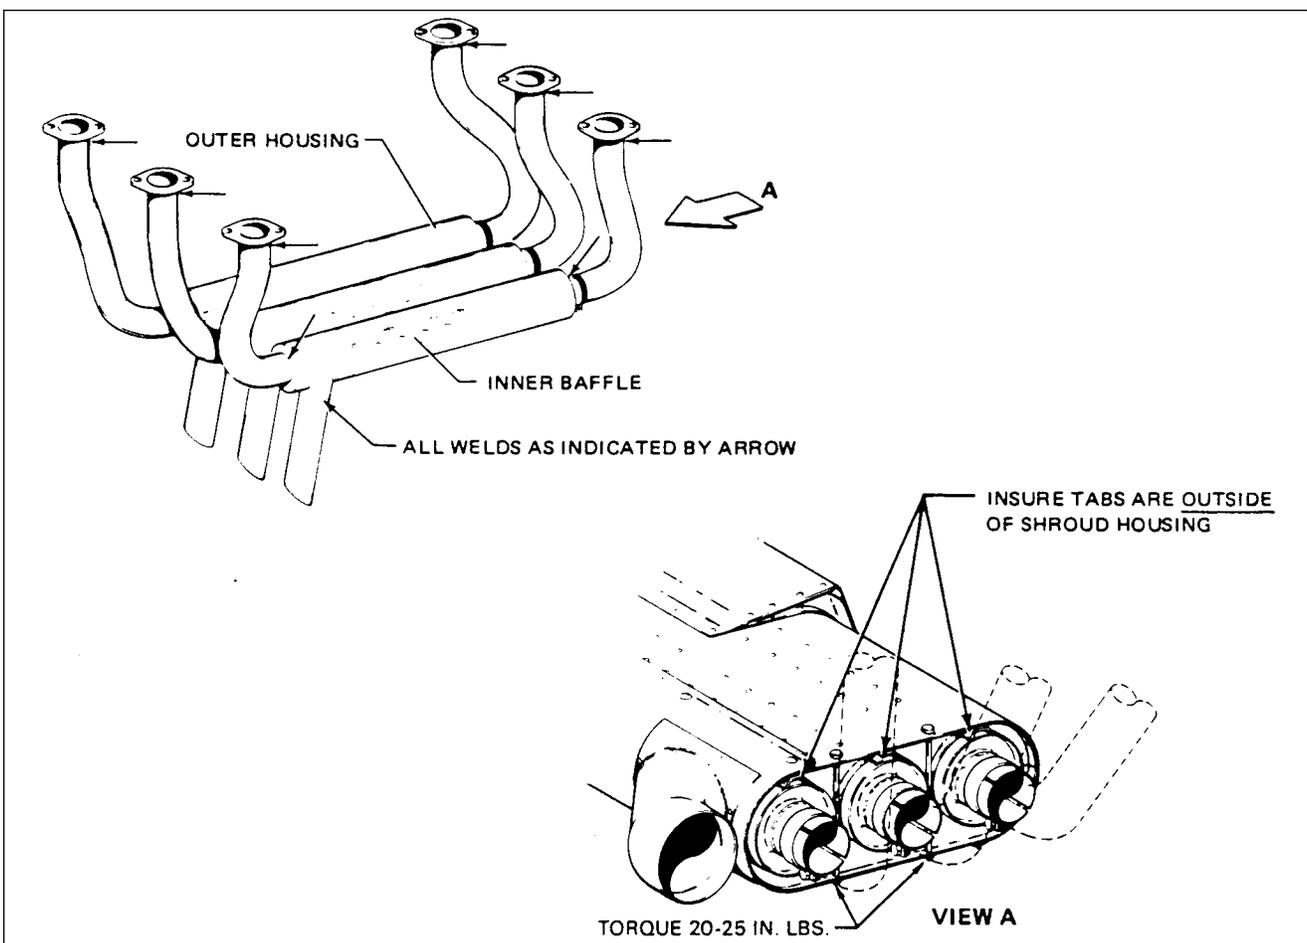

Figure 78-1. Exhaust System Inspection Points
**INSPECTION OF EXHAUST SYSTEM** (figure 78-1)